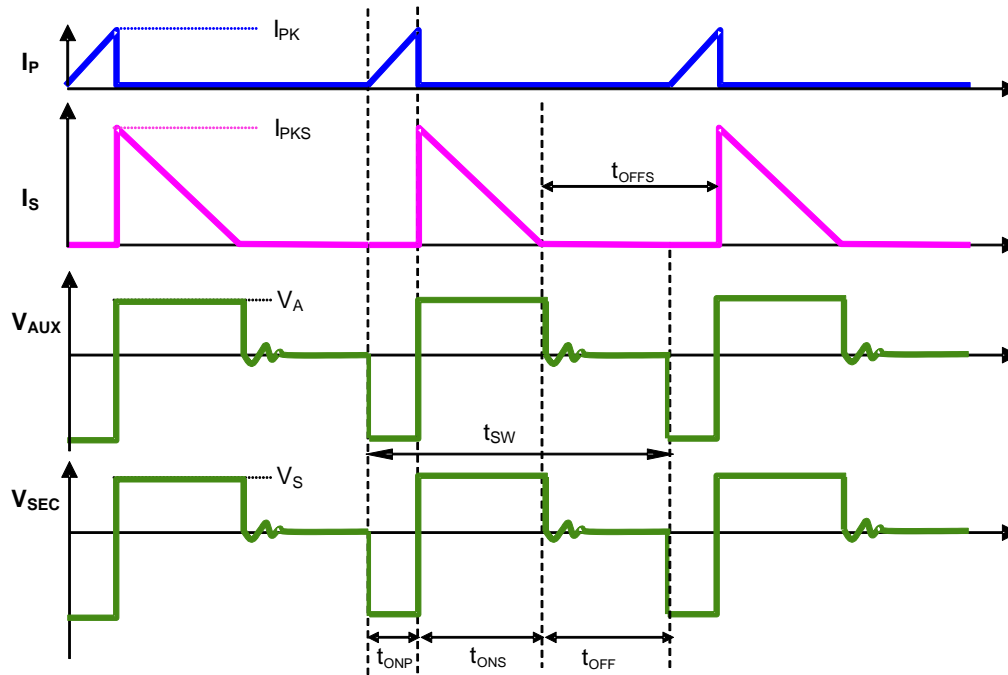

Figure 2. The Operation Waveform of Flyback PSR System
Figure 2 shows the typical waveforms which demonstrate the basic operating principle of APS39903 application. And the parameters are defined as following.
As illustrated in Figure 2, when the current $i_p(t)$ rises up to I_{PK} , the switch Q_1 turns off. The constant peak current is given by:
The APS39903 can work in constant-current (CC) mode. Figure 2 shows the secondary current waveforms.